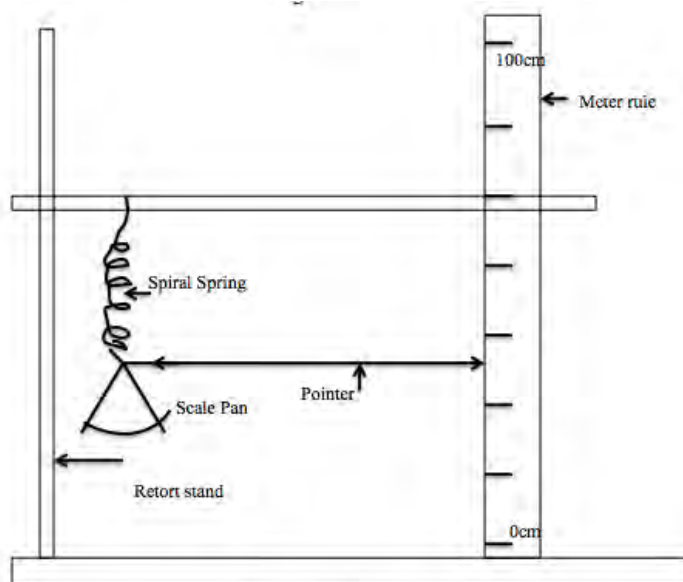

Figure 1
1. Assemble the apparatus as shown in the Figure 1 with the zero mark of the scale of the ruler at the bottom of the retort stand.